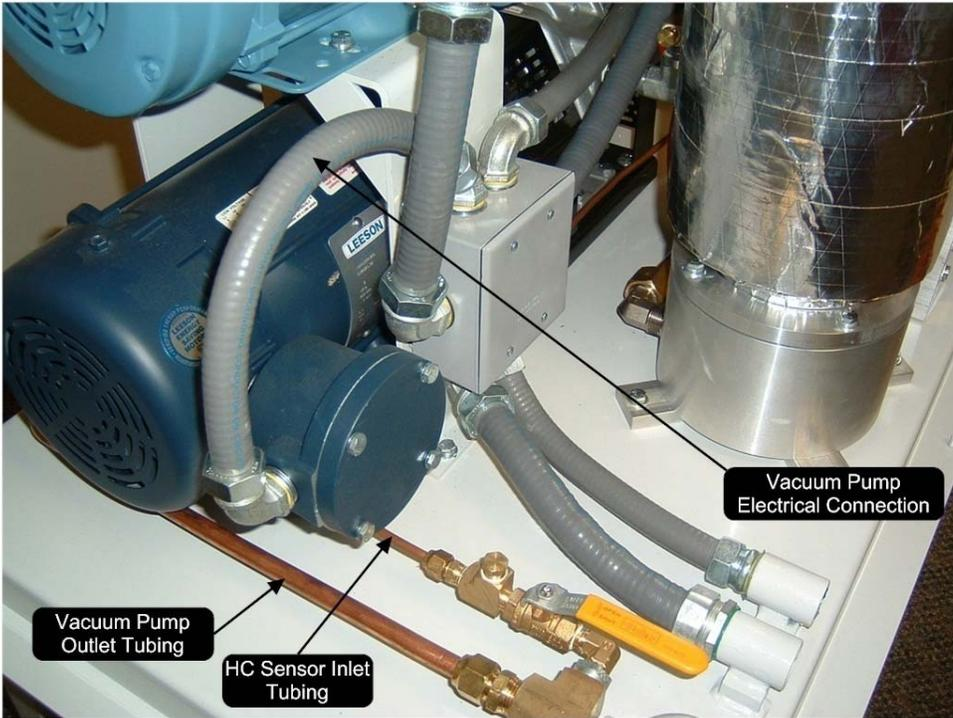
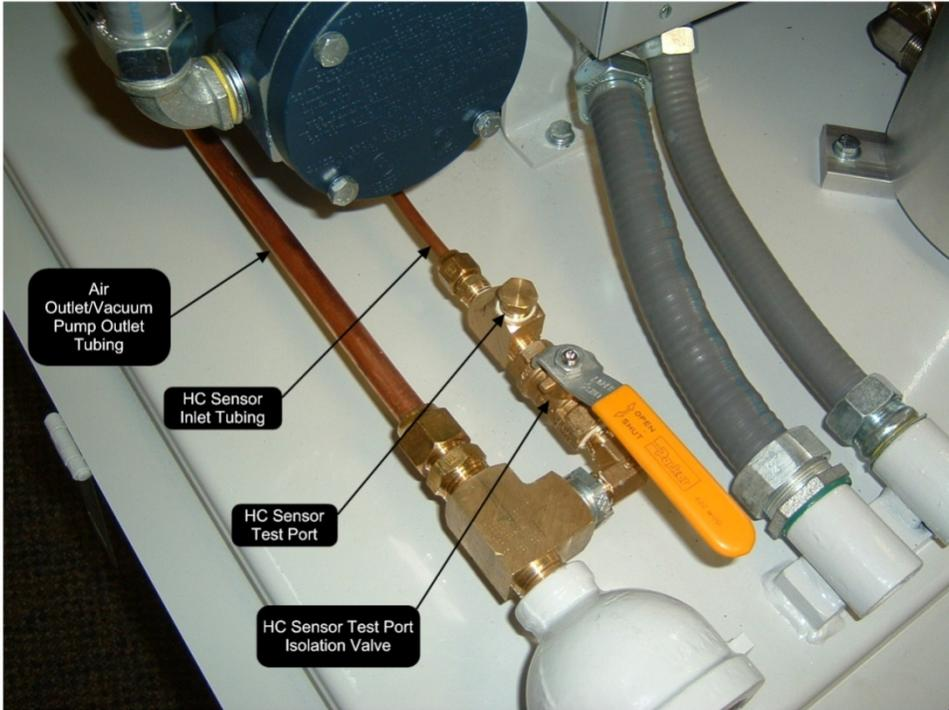

Figure 29: Vacuum pump electrical connection / vacuum pump outlet tubing / HC sensor inlet tubing
Figure 30: Air outlet / vacuum pump outlet / HC sensor inlet tubing
- See Figure 29 and Figure 30.
9. Remove (4) ¼" x 1-½" mounting bolts from the vacuum pump motor assembly base plate.
- Keep the (4) bolts for reuse or replace with new.
- Completely remove the vacuum pump 1/2" and 1/4" inlet 45° flare tubing and all pipe fittings connected to the vacuum pump. See Figure 29.